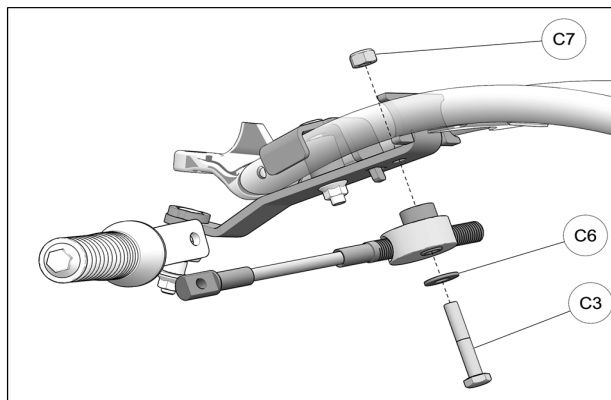

Fig. 17
12. Insert bolt (C3) in the anchor bracket's remaining free hole. Slip steering limiter cable assembly over bolt (C3) and use washer (C6) and nut (C7) to secure assembly to anchor bracket. Tighten nut to 50 N•m [37 lb•ft]. Refer to Fig. 17